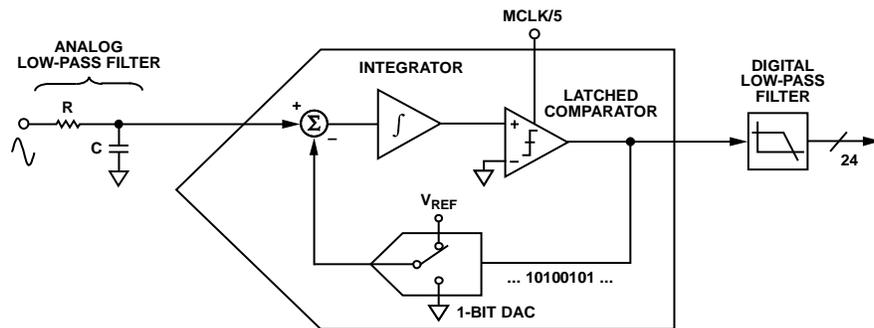
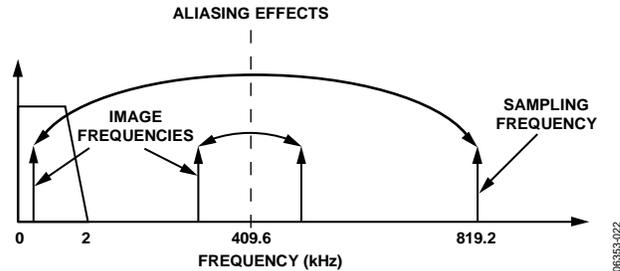

Figure 44. First Order  $\Sigma$ - $\Delta$  ADC
Figure 45. ADC and Signal Processing in Current Channel Outline Dimensions
For simplicity, the block diagram in Figure 44 shows a first-order  $\Sigma$ - $\Delta$  ADC. The converter is made up of the  $\Sigma$ - $\Delta$  modulator and the digital low-pass filter (LPF).
Figure 44 also shows an analog LPF (RC) on the input to the modulator. This filter is present to prevent aliasing, an artifact of all sampled systems. Aliasing means that frequency components in the input signal to the ADC that are higher than half the sampling rate of the ADC appear in the sampled signal at a frequency below half the sampling rate. Figure 45 illustrates the effect. Frequency components (the black arrows) above half the sampling frequency (also known as the Nyquist frequency, that is, 409.6 kHz) are imaged or folded back down below 409.6 kHz. This happens with all ADCs, regardless of the architecture. In the example shown, only frequencies near the sampling frequency (819.2 kHz) move into the band of interest for metering (40 Hz to 2 kHz). This allows the use of a very simple LPF (low-pass filter) to attenuate high frequency (at approximately 819.2 kHz) noise and prevents distortion in the band of interest.
For conventional current sensors, a simple RC filter (single-pole LPF) with a corner frequency of 10 kHz produces an attenuation of approximately 40 dB at 819.2 kHz (see Figure 45). The 20 dB per decade attenuation is usually sufficient to eliminate the effects of aliasing for conventional current sensors. However, for a di/dt sensor such as a Rogowski coil, the sensor has a 20 dB per decade gain. This neutralizes the  $-20$  dB per decade attenuation produced by one simple LPF. Therefore, when using a di/dt sensor, care should be taken to offset the 20 dB per decade gain. One simple approach is to cascade two RC filters to produce the  $-40$  dB per decade attenuation needed.